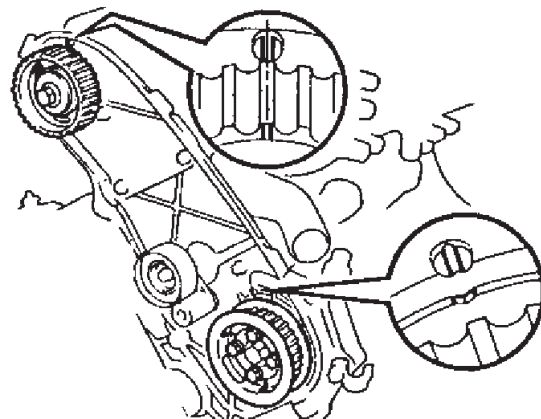

Figure 5-180
13. Align the timing mark of the No. 2 camshaft timing pulley with the bottom dead center (BDC) mark (**Figure 5-180**). **NOTICE: NEVER turn the camshaft pulley as the valve heads will contact the piston heads causing engine damage.**
14. Align the timing mark of No. 1 camshaft timing pulley to the bottom dead center (BDC) mark (**Figure 5-180**).